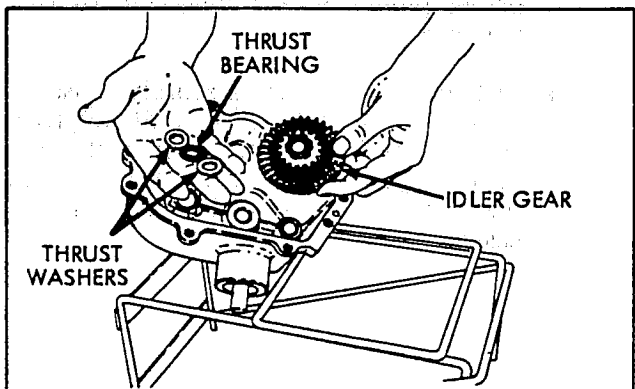

Figure 3-8
NOTE: For sequence of thrust washers and bearings, see Figure 3-8.
- (c) Set case assembly open side up. Insert the idler shaft gear assembly, thrust washers and bearing. Note sequence of washers and bearings (Figure 3-8). Note: Place reverse idler shaft into bearing to aid in holding washers, thrust bearing, idler shaft and gear assembly prior to installing shifter assembly.
- (j) Install transaxle cover assembly, and secure with eight (8) cap screws.